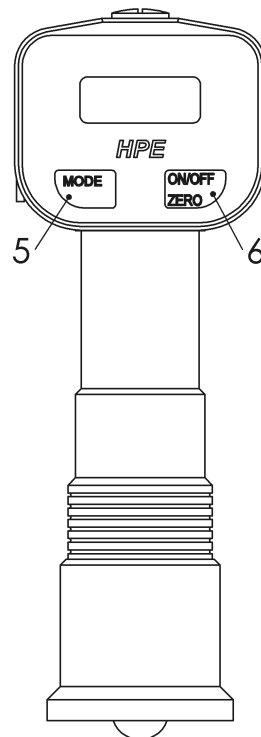

FIG. 3 MODE AND ON/OFF ZERO - KEYS
- Switch on the testing device by pressing the ON/OFF ZERO-key (6, Fig. 3).
- Pressing the Mode-key (5, Fig. 3) the number of stored measured values is indicated.